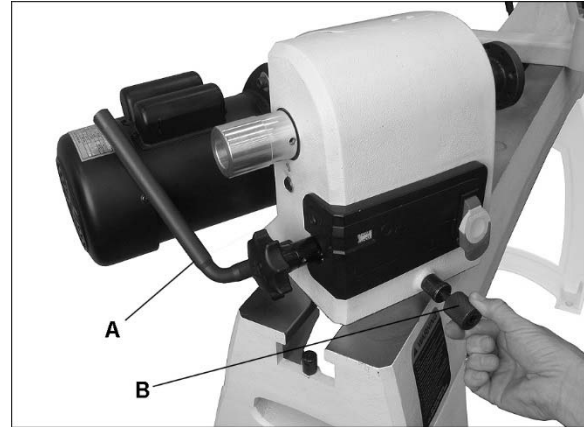

Figure 9
Push handle (A, Figure 9) toward motor to unlock. Headstock will slide freely along the length of the bed. Retighten handle before operating lathe.
1. Loosen handle (A, Figure 9).
2. Unscrew the knurled knob (B) counter-clockwise until it can be pulled outward.
4. Release knob (B) and it will seat itself with an audible click when the headstock reaches a positive lock position.
5. Tighten handle (A) by pulling it away from the motor.
6. Rotate knob (B) clockwise until it engages the threads.